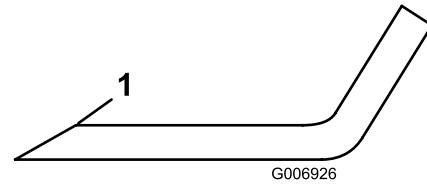

Figure 108
5. Inspect the cutting edges of all blades. Sharpen the cutting edges if they are dull or nicked. Sharpen only the top of the cutting edge and maintain the original cutting angle to make sure that it is sharp (Figure 108).
6. If dull or nicked, sharpen only the top cutting edge while maintaining the original cutting angle (Figure 108).